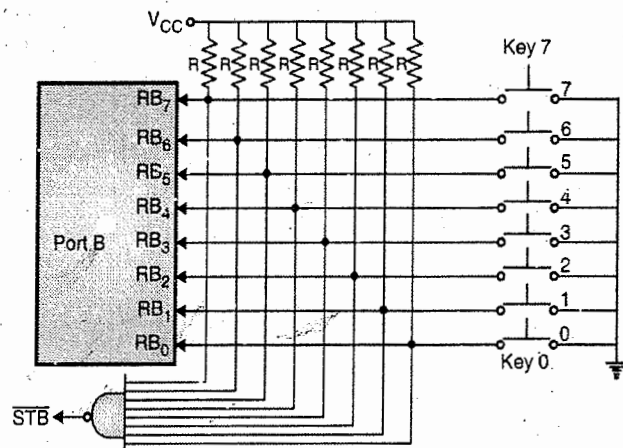

Fig. 10.3.2 : Hardware technique of identification
- The above three functions can be performed through hardware as well as software. As an example we will see hardware technique for identification of key closure. The interfacing is as shown in Fig. 10.3.2.